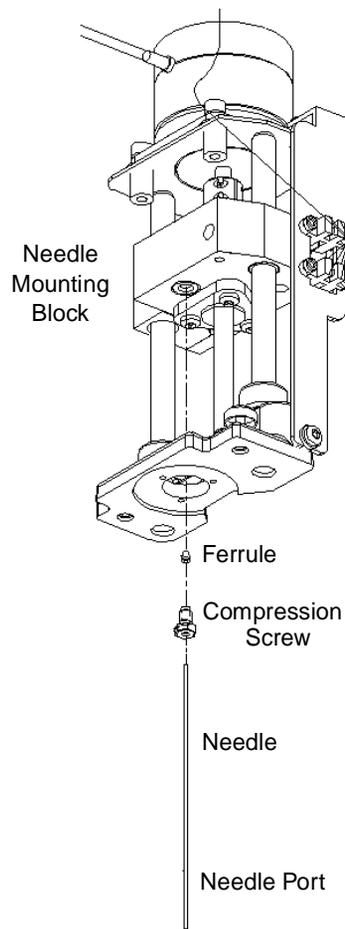

Figure 7-15 Replacing the Needle
1. Unscrew the compression screw on the needle (Figure 7-15).